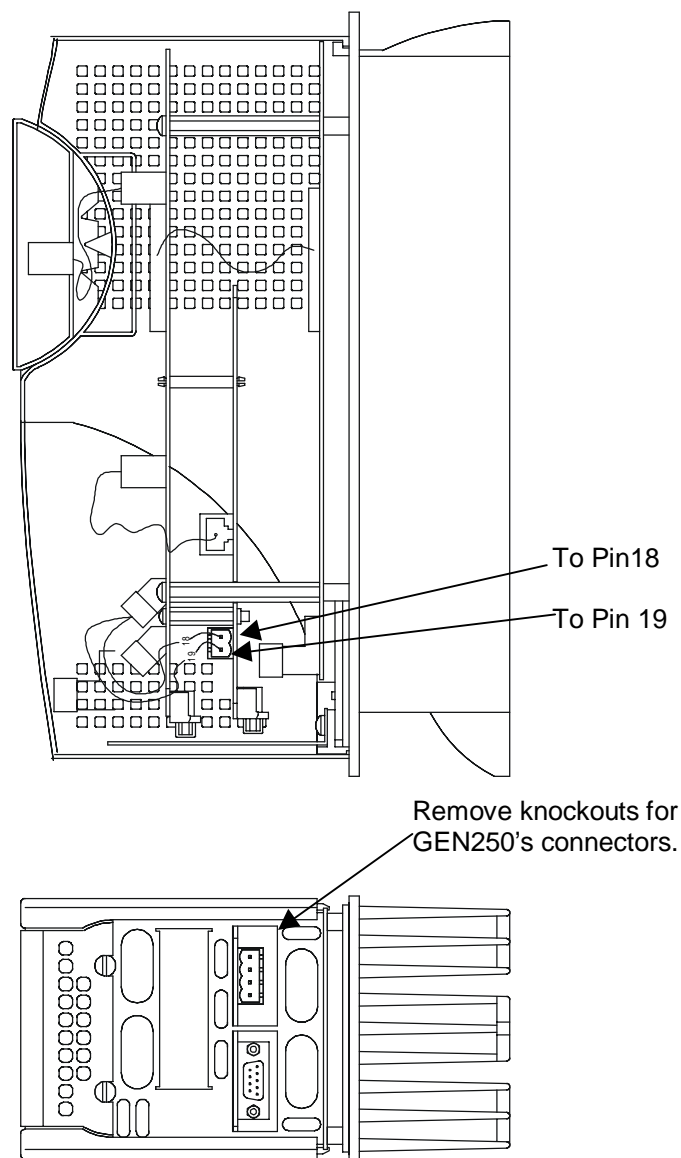

Figure 8.5 – Installing GEN250
- d. Reconnect the four plugs that were removed during disassembly. Connect the two wires from the GEN250 to points #18 and #19 (Figure 8.5).
- e. Before replacing the lower panel, remove the two knockouts aligned with the connectors on the lower side of the GEN250 card (Figure 8.5).
18. Reinstall terminal plugs that were previously disconnected in Step 5. (Figure 8.5.)